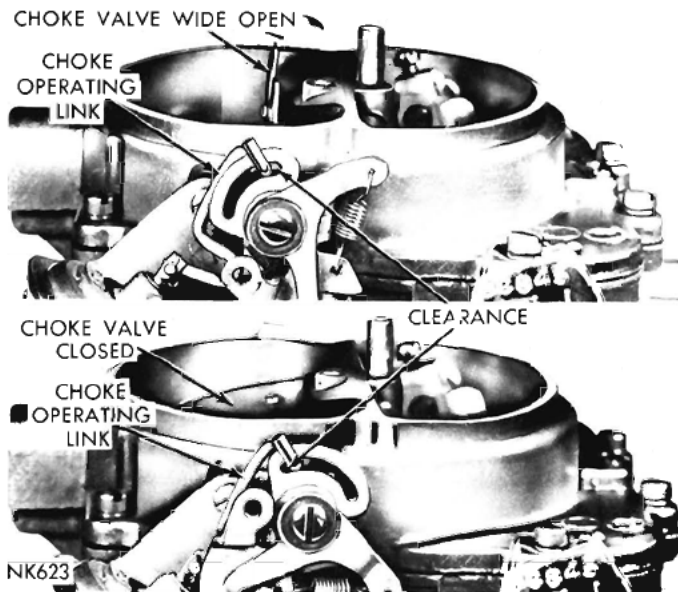

Fig. 13—Choke Operating Link Clearances
(8) Reinstall the vacuum hose to the diaphragm and with no vacuum applied to the diaphragm, some clearance should exist between the choke operating link and the choke lever slot, in both the open and closed choke valve positions, as shown in (Fig. 13). **This clearance is necessary to allow the choke valve to close for starting as well as fully open position after the engine reaches the normal operating temperature.**